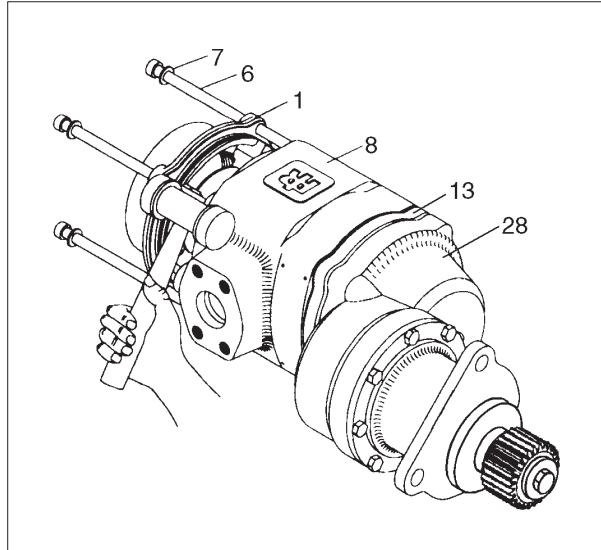

Fig 1.
1. If replacing the motor assembly (12), remove both housing plugs (10) and drain the oil from the gearing before beginning disassembly of the starter. Inspect the magnetic housing plugs (10) for metal particles. Very fine metal particles are normal. Remove particles and reinstall plugs. Large particles or chips are an indication of a problem. Disassemble gear case (28) and inspect.
2. Using a screw driver, unscrew the exhaust cover (67) from the housing exhaust cover (1).
3. Using an 8 mm hex-head wrench, unscrew and remove the starter assembly cap screws (6) and washers (7), See fig 1.
4. Pull the housing exhaust cover (1) from the motor housing (8). To dislodge the housing exhaust cover, rotate it until the ears clear the motor housing. Using a plastic hammer, tap the ears alternately until the housing cover can be removed from the motor housing.